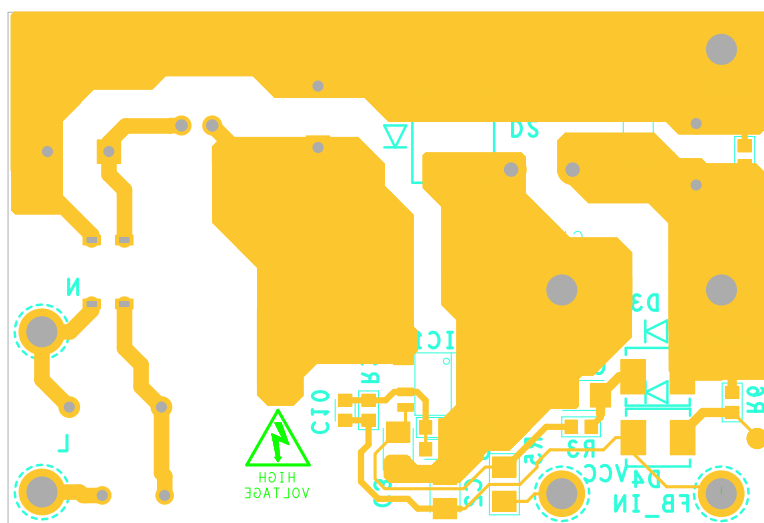

Figure 34. Example PCB Layout
- Place the V_{CC} decoupling capacitor and the FB pin decoupling capacitor close to the pins. A single-sided PCB layout example is shown in Figure 34.